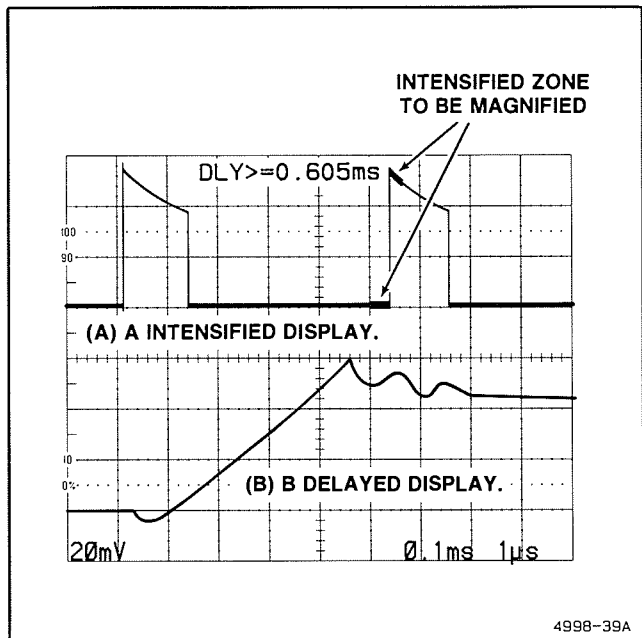

Figure 6-26. Delayed-sweep magnification.
6. Adjust the B DELAY TIME POSITION control to position the start of the intensified zone to the portion of the display to be magnified (see Figure 6-26).
7. Set the B SEC/DIV switch to a setting which intensifies the full portion of the A trace to be magnified. The intensified zone will be displayed as the B trace (see Figure 6-26). The B HORIZONTAL MODE may also be used to magnify the intensified portion of the A Sweep.